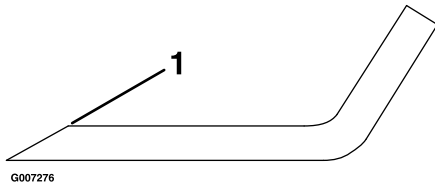

Figure 36
1. Use a file to sharpen the cutting edge at both ends of the blade (Figure 36). Maintain the original angle. The blade retains its balance if the same amount of material is removed from both cutting edges.